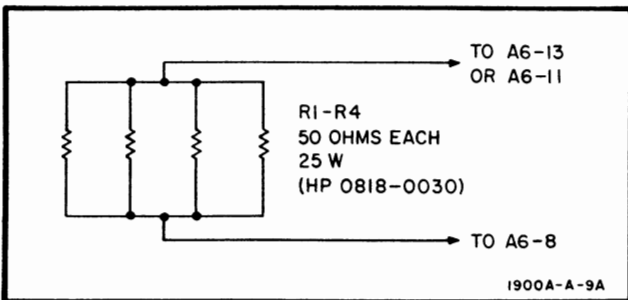

Figure 5-3. Dummy Load for ±25V Power Supply
a. Connect ± 25 -volt Power Supply Dummy Load, figure 5-3, between pin 8 and pin 13 of 15-pin Connector.